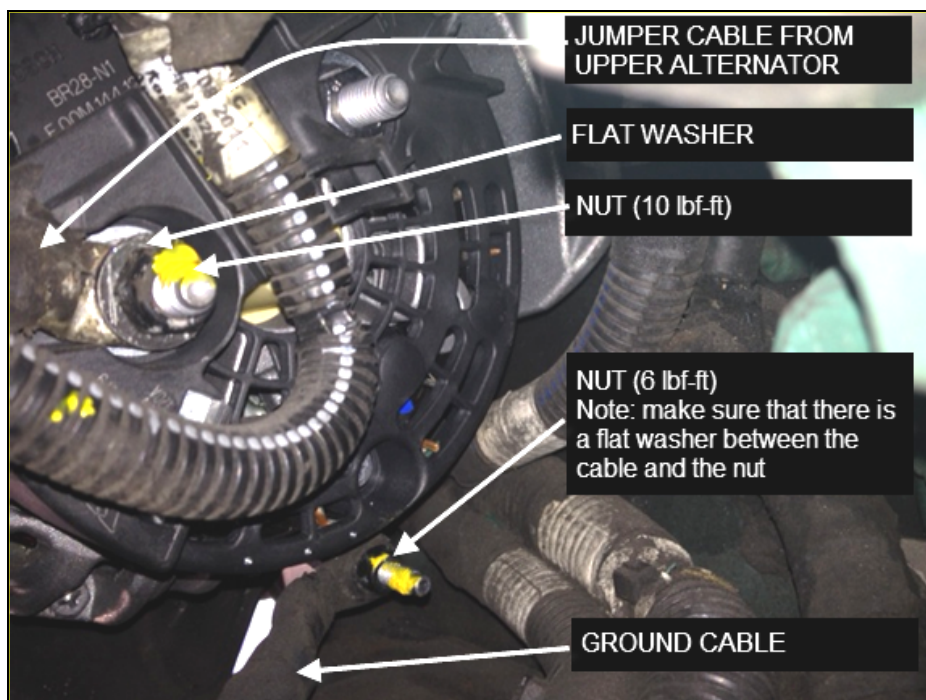

FIGURE 30
- Fit jumper cable (positive cable) onto **B1+** stud terminal on lower alternator (**FIGURE 30**).
- Place one new flat washer #5001341 against the cable ring terminal and screw new nut #5001787 (nut torque: 10 lbf-ft) (**FIGURE 30**).
- Fit the ground cable onto the alternator ground stud, place one new flat washer #502573 against the ground cable ring terminal and screw a new nut #5001182 (nut torque: 6 lbf-ft) (**FIGURE 30**).